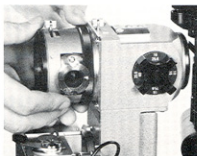

Fig. 87
- (2) Align the pin of the beam splitter unit 84 to its notch and insert fully, in place of the prism housing. Then, revolve the fixing ring and attach. (See Fig. 87)
- (3) Attach the prism housing to the rear of the beam splitter unit in the same manner as (2).